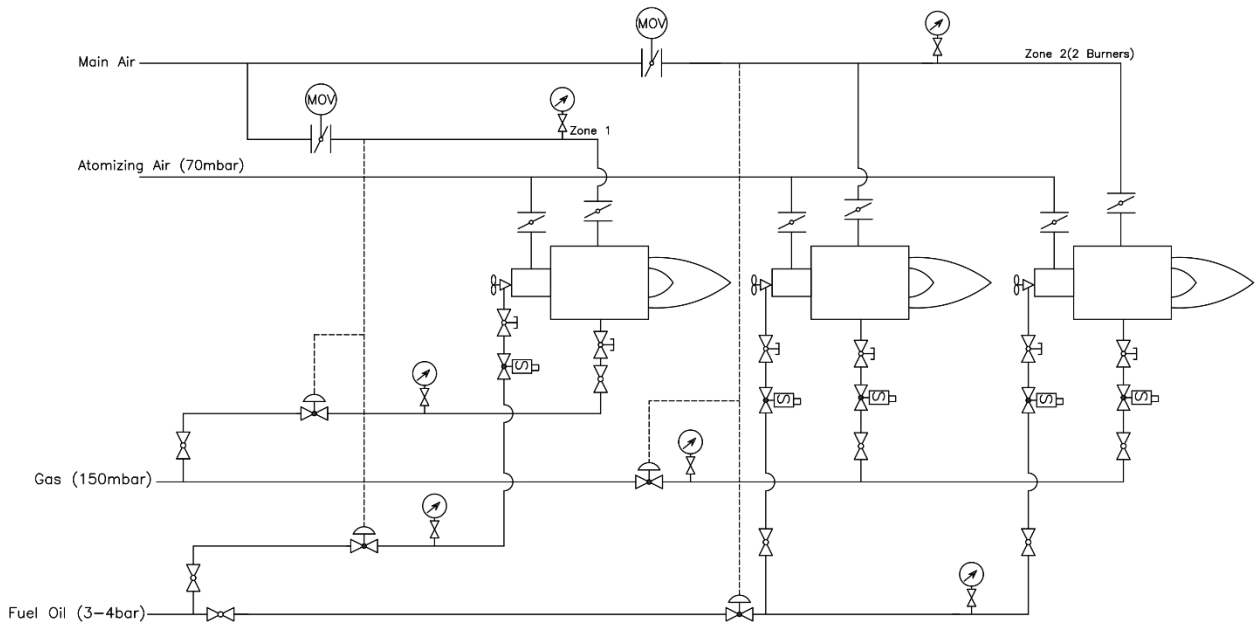

Figure 1: Suggested Piping Arrangement for MGO Burner
- b) Pipe air and fuel lines in a manner similar to that shown in Figure 1. Flexible connections are recommended in air and fuel lines to minimize strain from piping and thermal expansion.
- d) Connect impulse piping as shown in Figure 1. These piping arrangements are designed to keep air and gas flows on the desired ratio at all firing rates.